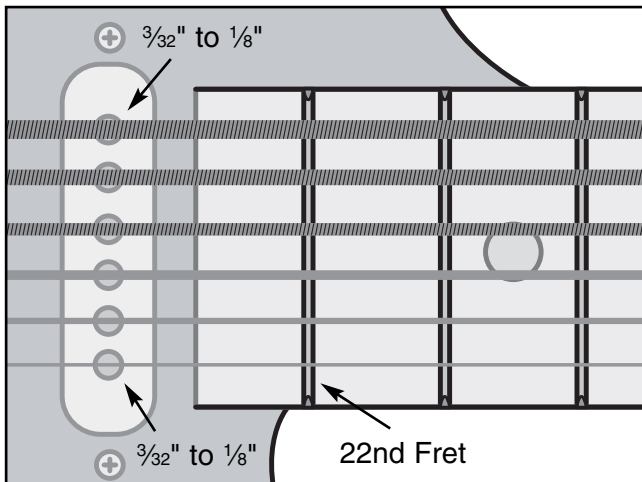

Figure 35. Correct string heights over the pick up while the strings are fretted on the 22nd fret.
1. Measure the height of the 1st and 6th strings at the pick up while the strings are “fretted” at the 22nd fret (**Figure 35**). Note—*Use a steel ruler with a resolution of at least $\frac{1}{32}$ ”.*
2. With a phillips head screwdriver, adjust the screws on each side of the pick up (**Figure 35**) until the string heights are correct.